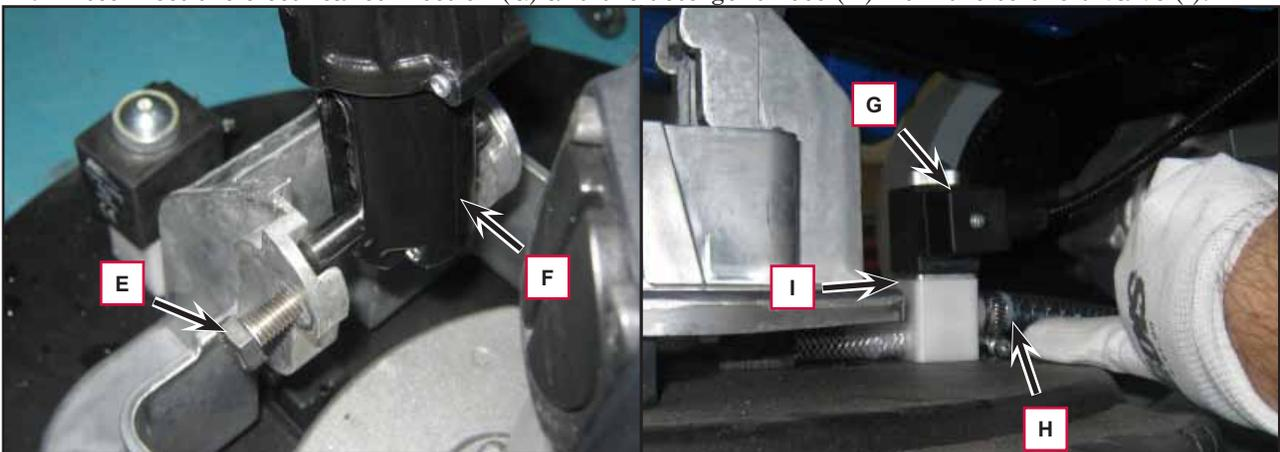

Figure 8
10. Remove the screw (E, Figure 8) and release the actuator lower pin (F).
11. Disconnect the electrical connection (G) and the detergent hose (H) from the solenoid valve (I).